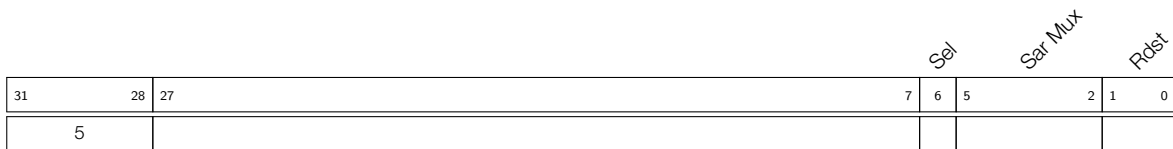

Figure 1-23. Instruction Type - ADC
- Operand** **Description** - see Figure 1-23